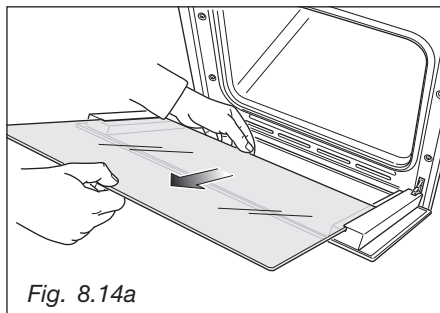

Fig. 8.14a
- Gently pull out the inner pane of glass (fig. 8.14a).